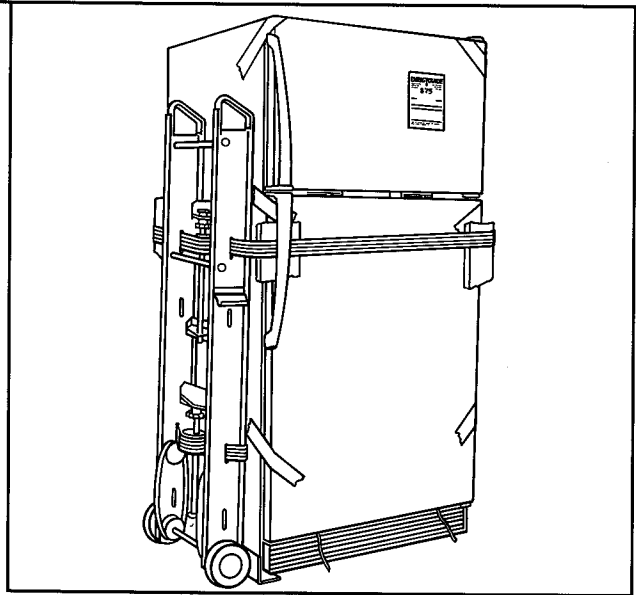

Figure 1
4. Thread strap from cart around refrigerator, putting strap between refrigerator door and door handle. See Figure 1.